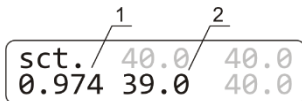

Figure 4. Changing the coefficient:
- 6.4.6 Using the ▲ and ▼ T, °C keys, change the calibration coefficient (fig. 4/1) so that the new temperature value (fig. 4/2) corresponds to the independent sensor temperature. In our example, the calibration coefficient will be 0.974.